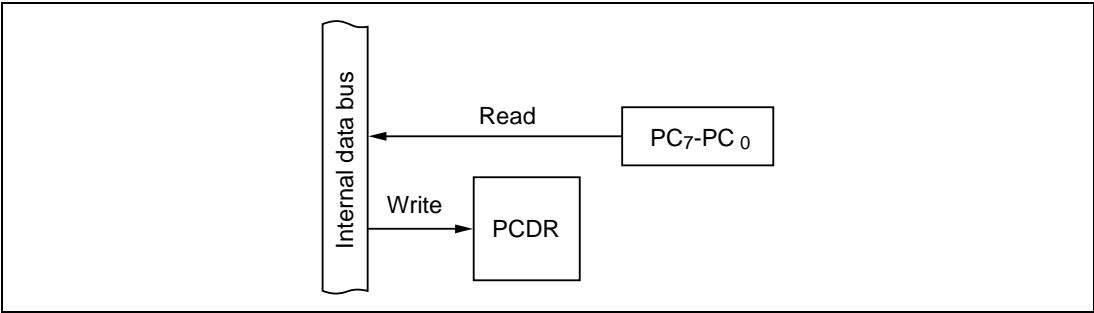

Figure 10-87 Input Port (Modes 2 and 4)
(1) Input Port (Modes 2 and 4): Figure 10-87 shows a block diagram illustrating the general-purpose input function. Table 10-64 indicates register read/write data. Values written in the port C data register (PCDR) have no effect on general-purpose input lines. When read, PCDR returns the value at the pin.